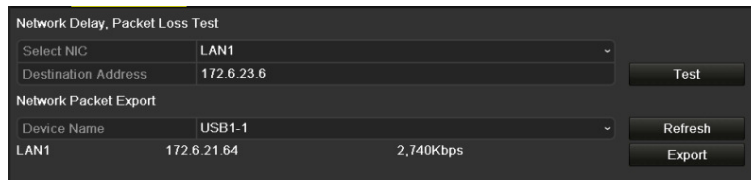

Figure 208 Export Network Packet
3. Select the backup device from the Device Name drop-down list, as shown in Figure 208.